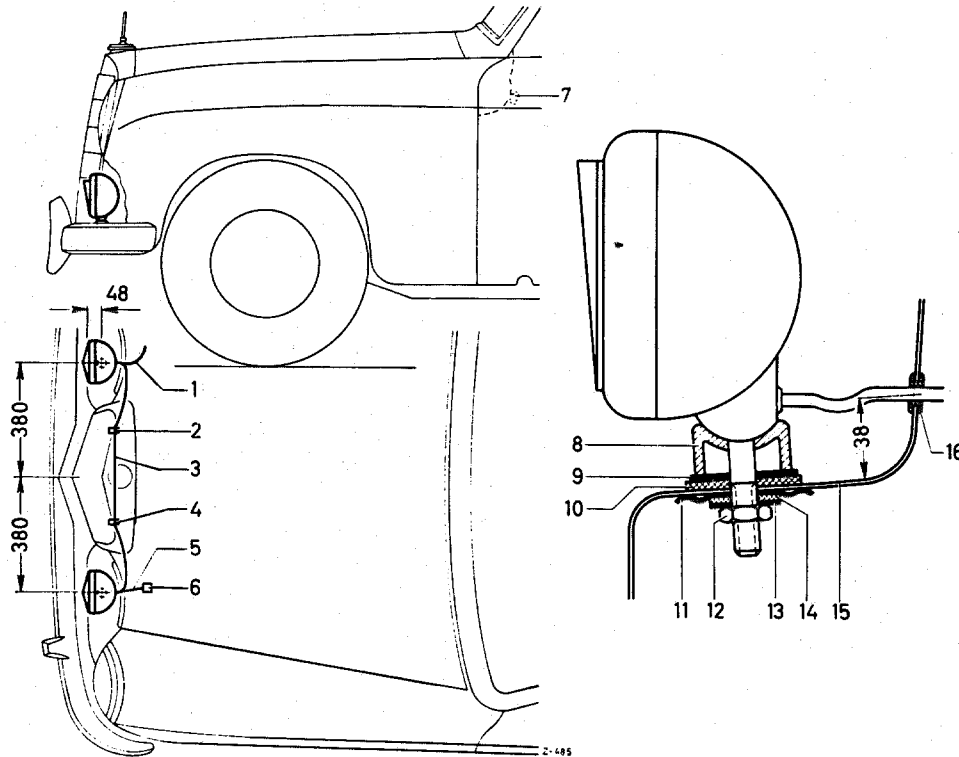

Fig. 82 — 19/1
- For fixing the two fog lights, drill a hole 12.5 mm diameter on each side, according to the dimensions given (see Fig. 82 — 19/1).
- Bore a 10 mm diameter hole in the panelling on each side for the cables (15), according to the dimensions given, and fit a rubber grommet (16) in each hole.